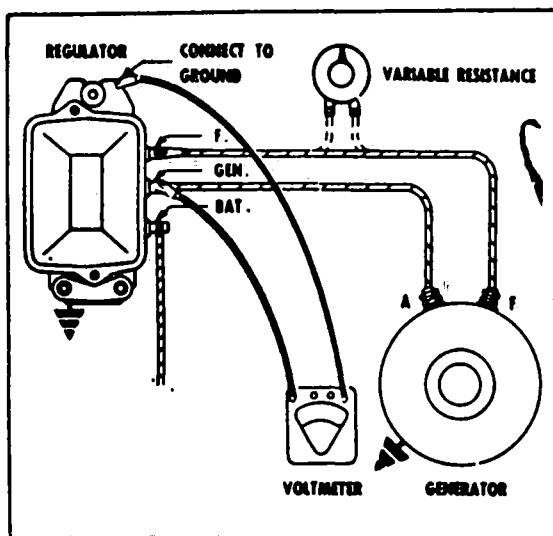

Figure 11-12. Checking Cutout Relay Closing Voltage
c. Closing Voltage: Connect regulator to proper generator and battery. Connect voltmeter between the regulator "GEN" terminal and ground. (Refer to Figure 11-12.)
Method 2: Make connections as in Step c; but, in addition, add a variable resistor connected into the field circuit. (Refer to Figure 11-12.) Use a 25 ohm - 25 watt resistor. Operate generator at medium speed with variable resistance turned all in. Slowly decrease (turn out) the resistance until cutout relay points close. Note closing voltage. With cover in place, slowly increase (turn in) resistance to make sure points open.